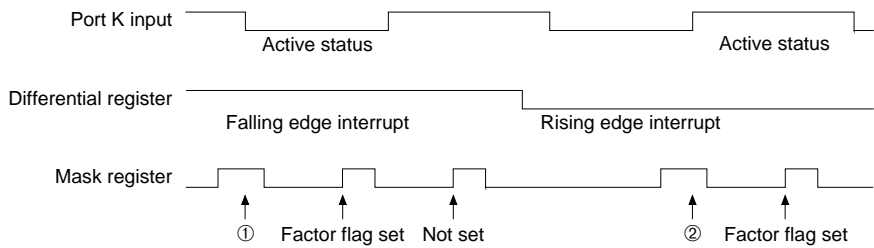

Fig. 5.7.3
When an interrupt is triggered at the falling edge of an input terminal, a factor flag is set with the timing of ① shown in Figure 5.7.3. However, when clearing the content of the mask register with the input terminal kept in the Low status and then setting it, the factor flag of the input interrupt is again set at the timing that has been set.
When an interrupt is triggered at the rising edge of the input terminal, a factor flag will be set at the timing of ② shown in Figure 5.7.3. In this case, when the mask registers cleared, then set, you should set the mask register, when the input terminal is in the Low status.